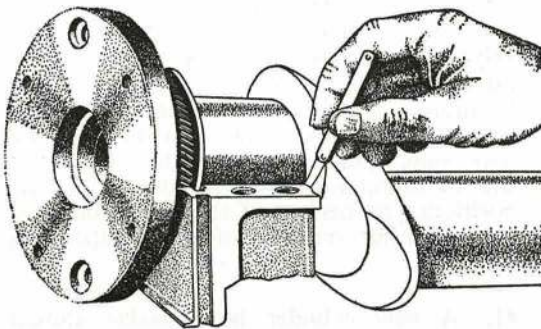

Fig. 13. CHECKING CRANKSHAFT END FLOAT
34. The front and rear bearings on some engines have felt or cork packing washers, and care must always be taken to ensure that these are correctly fitted. Also, at this stage, the end float of the crankshaft will probably be checked and rectified where necessary. Crankshaft end float is sometimes controlled by one of the main bearings, but more frequently by special thrust washers. End float is checked with feeler gauges as shown in Fig. 13. If end float is excessive it may be reduced by selective assembly of new thrust washers, or, by reducing the thickness of washers which are slightly too thick by rubbing them down on emery cloth on a surface plate. If the thrust washers have one side faced with white metal, this side must always be fitted to face the crankshaft. On Rolls Royce B.80 engines new oil seals must be fitted to the side faces of the rear main bearing. These seals are of soft white pine; they should be carefully driven in and the surplus trimmed off flush with the housing face.